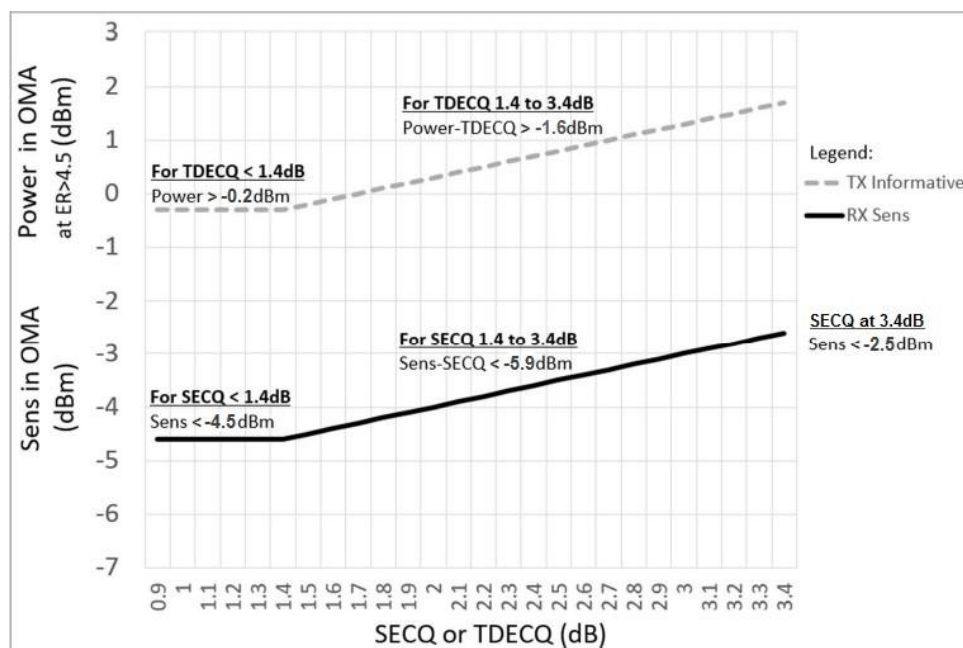

Figure 5. Stressed Receiver Sensitivity Mask
6. Measured with conformance test signal for BER = 2.4×10^{-4} . A compliant receiver shall have stressed receiver sensitivity (OMA_{outer}) values below the mask of Figure 5, for SECQ values between 0.9 and 3.4 dB.